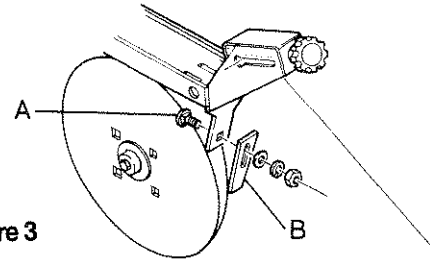

Figure 3
1. Remove $\frac{3}{8}$ " x 1" carriage bolt (A), washers and hex nut that holds inside scraper (B) to scraper mount. (see figure 3).